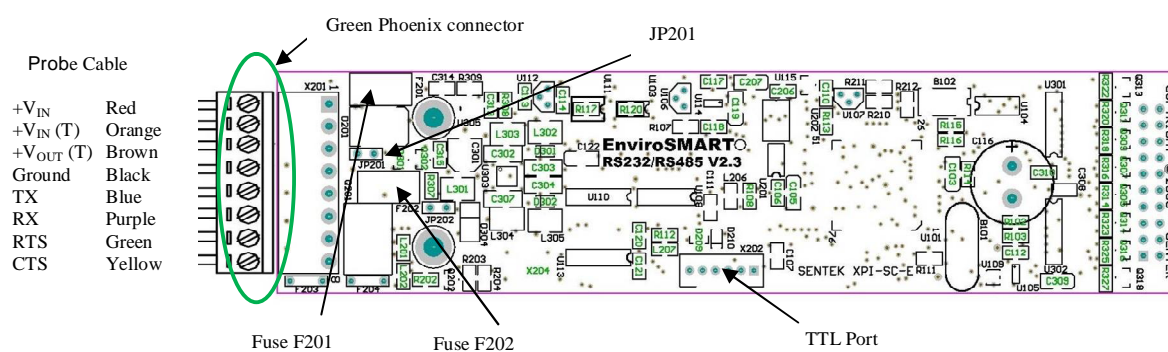
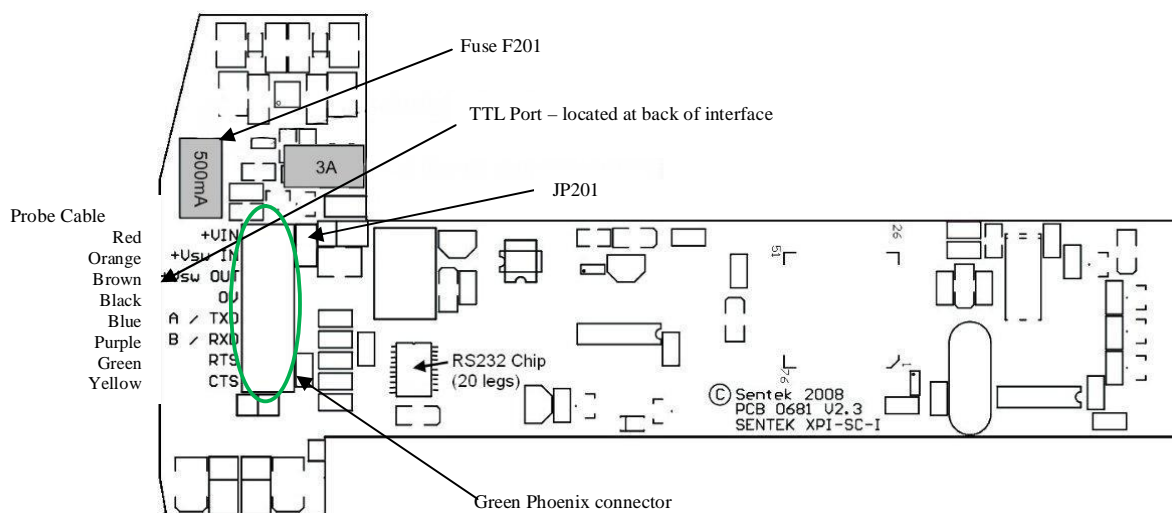

Figure 2: EnviroSCAN Series II RS232 probe interface wiring
Figure 3: EasyAG Series II RS232 probe interface wiring
5. Connect the grey data cable to the green Phoenix connector at the top of the probe interface in order of colours shown in Figure 2 and Figure 3 below.
6. Connect the Solo Head Unit cable to the green Phoenix connector at the top of the probe interface in order of colours shown in Figure 2 and Figure 3.